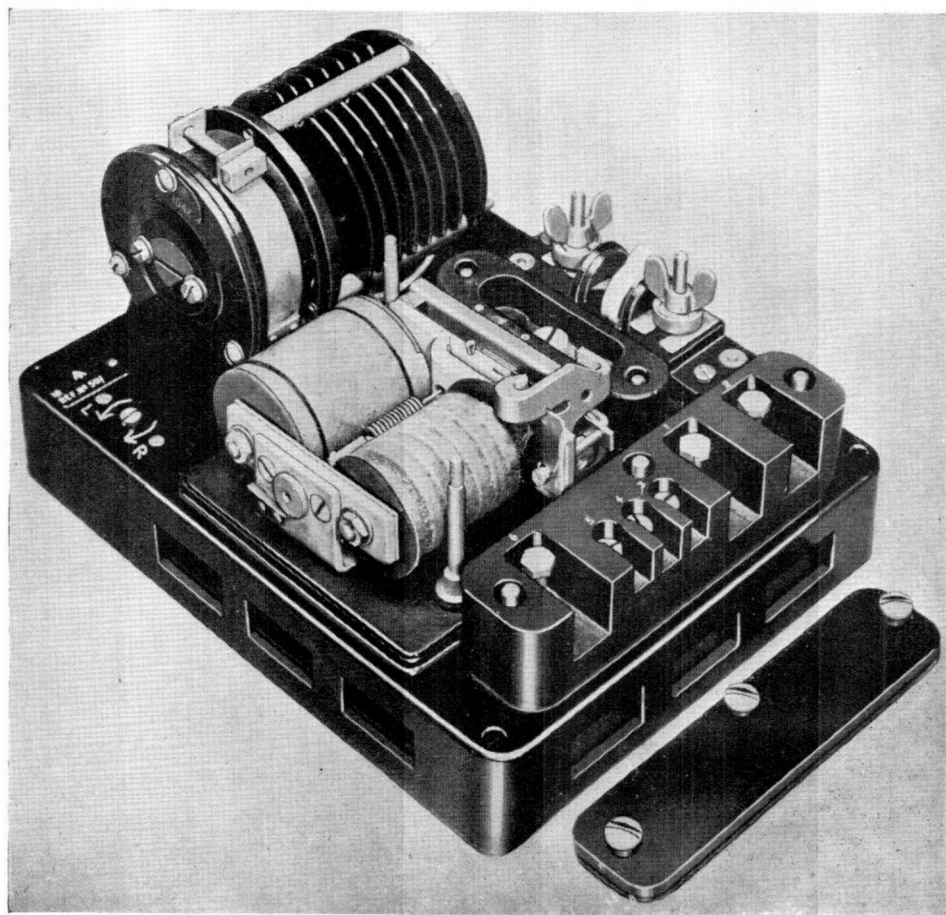
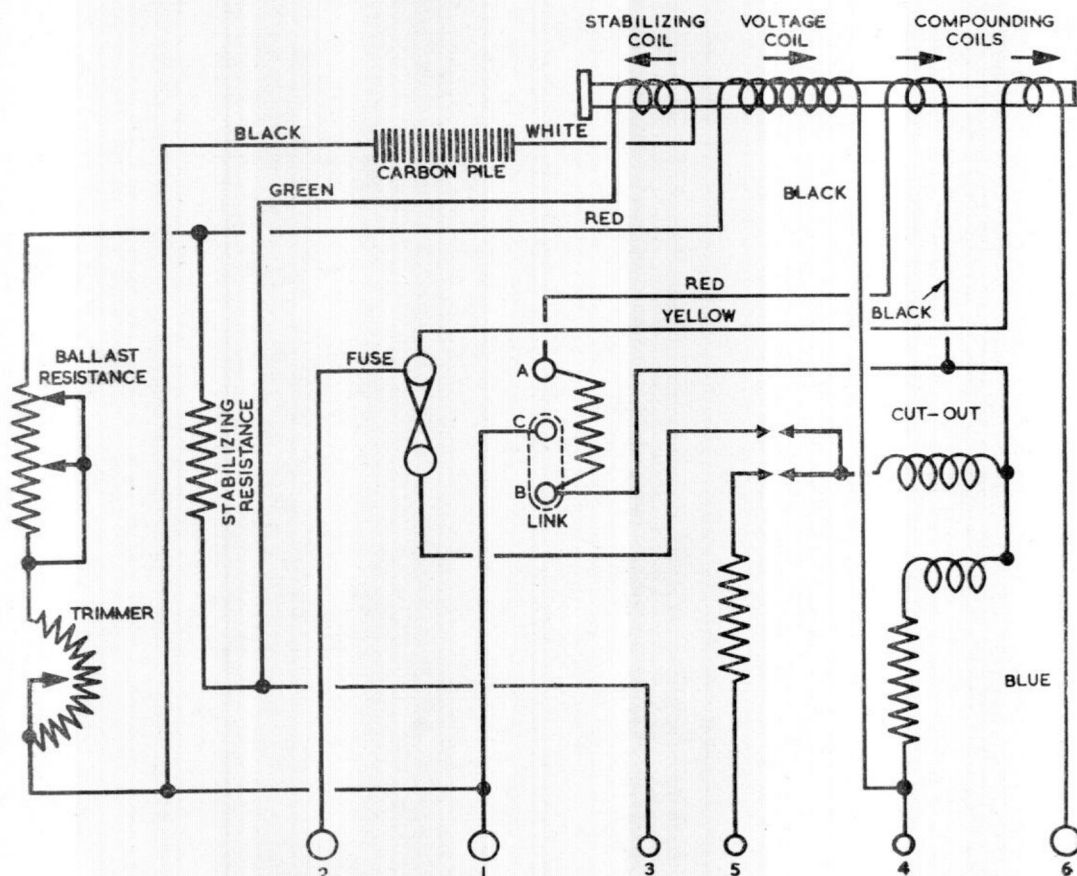

Fig. 1. Typical regulator and cut-out unit
Fig. 2. Typical circuit diagram
2. A general view of a typical voltage regulator and cut-out unit, the Type B, is given in fig. 1, and its circuit diagram, in fig. 2. It incorporates a regulator unit which is mounted on a base plate together with a cut-out and fuse box. The associated resistors for the regulator and cut-out are housed underneath the base plate.